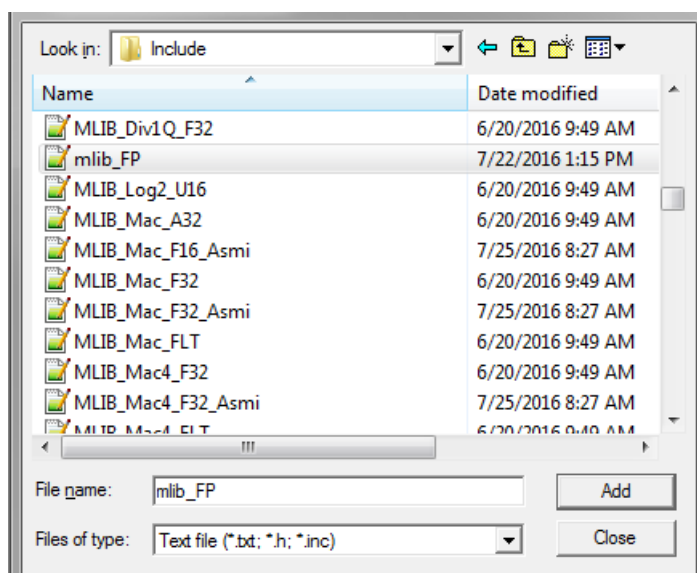

Figure 1-21. Adding .h files dialog
4. Navigate into the library installation folder `C:\NXP\RTCESL\CM7F_RTCESL_4.6_KEIL\MLIB\Include`, and select the `mlib_FP.h` file. If the file does not appear, set the Files of type filter to Text file. Click Add. See Figure 1-21.